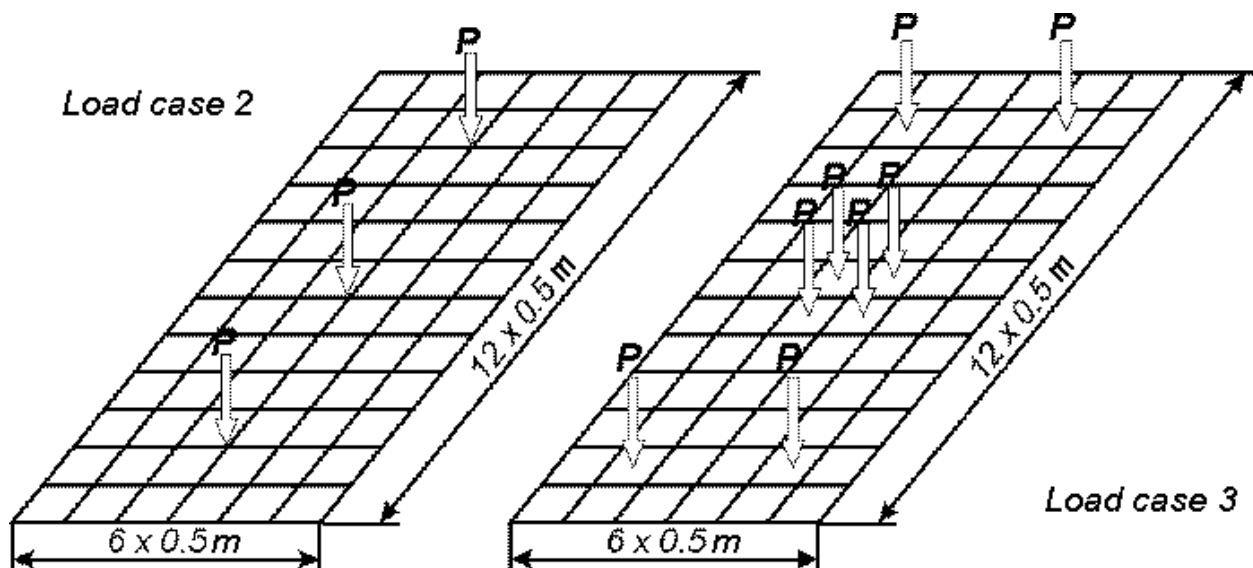

Figure 2.1 Design model of slab
Reinforced concrete slab 3 x 6 m, thickness 150 mm. Rear side of the slab is freely supported along the whole length, front side is freely supported with its ends on columns. Left and right sides of the slab (see Fig.2.1) are free.
- Load case 2 – concentrated loads $P = 1\text{t}$ applied as shown in Fig.2.1, load case 2;
- Load case 3 – concentrated loads $P = 1\text{t}$ applied as shown in Fig.2.1, load case 3.